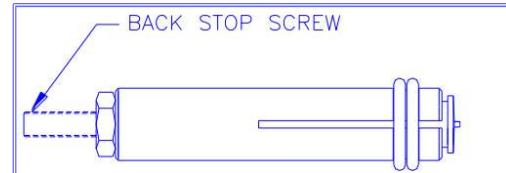
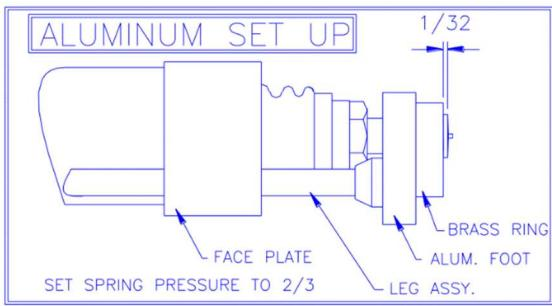
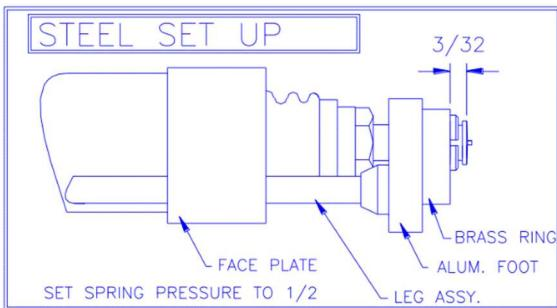

Fig. 4
Fig. 5
Fig. 6
- If you are welding aluminum, the gun setup should be as shown in **Fig. 5** First follow the instructions for **Fig. 4** Then fully insert the chuck into the gun and tighten the chuck-locking nut. Loosen the two legs by releasing the four set screws on the faceplate. Adjust the legs so that only the flange (approximately 1/32 inch or 0.79mm) of the fastener is visible beyond the brass ring. Tighten the four set screws on the legs. lastly, adjust the spring pressure using the slot screw at the rear of the gun. The pressure should be set to a positive number.
- If you are welding mild (carbon) or stainless steel, the gun setup will be as shown in **Fig. 6**. First, follow the directions in **Fig. 4**. Then, fully insert the chuck into the gun and tighten the chuck-locking nut. Loosen the two legs by releasing the four set screws in the faceplate. Adjust the legs so that approximately 3/32 inch or 2.4mm of the fastener is visible beyond the brass ring. Tighten the four set screws in the legs. Finally, adjust the spring pressure at the slot screw in the rear of the gun. The pressure should be set to a negative number. With these steps completed, the gun setup is now finished.